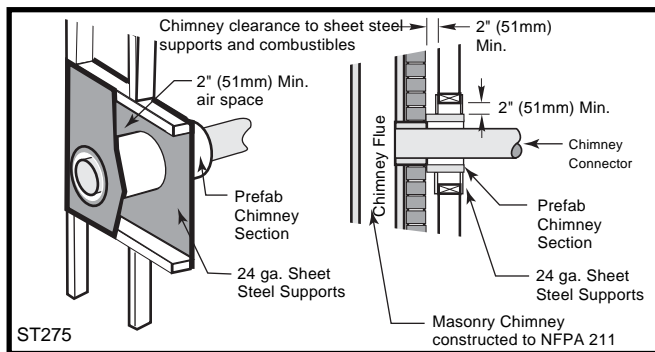

Fig. 12 Wall Pass-through with ventilated steel thimble.
- Placing a chimney connector pipe inside a section of 9" (230 mm) diameter, solid-insulated, factory-built chimney, with two inches of air space between the chimney section and combustibles. (Fig. 12)